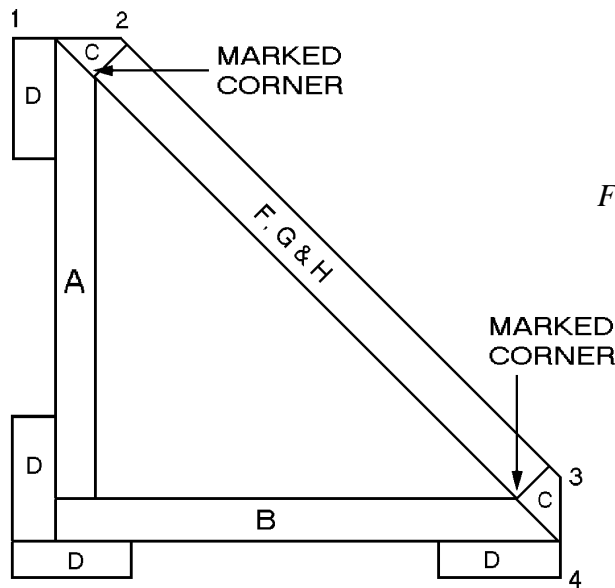

Figure 5
- Turn the trim pieces (C) so that the marked corner and the narrow edge of the trim (C) are in the positions shown in *Figure 5*. Reattach them to the cupboard backs (A and B) using glue and finishing nails along the entire length. Space the nails approximately 6 inches apart.
- Cut four back support pieces (D), each 79 inches long from 1 x 4 pine.
- Attach two back support pieces (D), to the center back of the assembled cupboard, overlapping them as shown in *Figure 5*. Glue and screw the supports (D) to the backs (A and B) using 1-1/4"-long screws placed about every 6 inches.
- Attach the remaining two back support pieces (D) to the outer edges of the cupboard backs (A and B), flush with the reattached trim (C). Glue and screw them to the cupboard backs using 1-1/4"-long screws spaced approximately 6 inches apart.
- Cut three middle shelf trim pieces (F) from 1 x 2 pine, each 11-1/4 inches long. Attach them to the front of the three middle shelves with glue and finishing nails, using about 3 nails per shelf. Make sure that the top of each shelf trim piece (F) is flush with the top of the shelf, as shown in *Figure 5*.
- Cut one 11-1/4"-long top shelf trim piece (G) from 1 x 4 pine. Attach it to the front of the top two shelves with glue and finishing nails, putting three nails into each shelf.
- Rip a 1-foot length of 1 x 6 to a width of 5 inches. Using the resulting 5-inch width, cut one 11-1/4"-long bottom shelf trim piece (H).
- Attach the bottom shelf trim piece (H) between the two bottom shelves (E) using glue and finishing nails. Using three nails across the top and three across the bottom.
- Measure the exact dimensions, as indicated in *Figure 5*, from (1) to (2), from (3) to (4) on